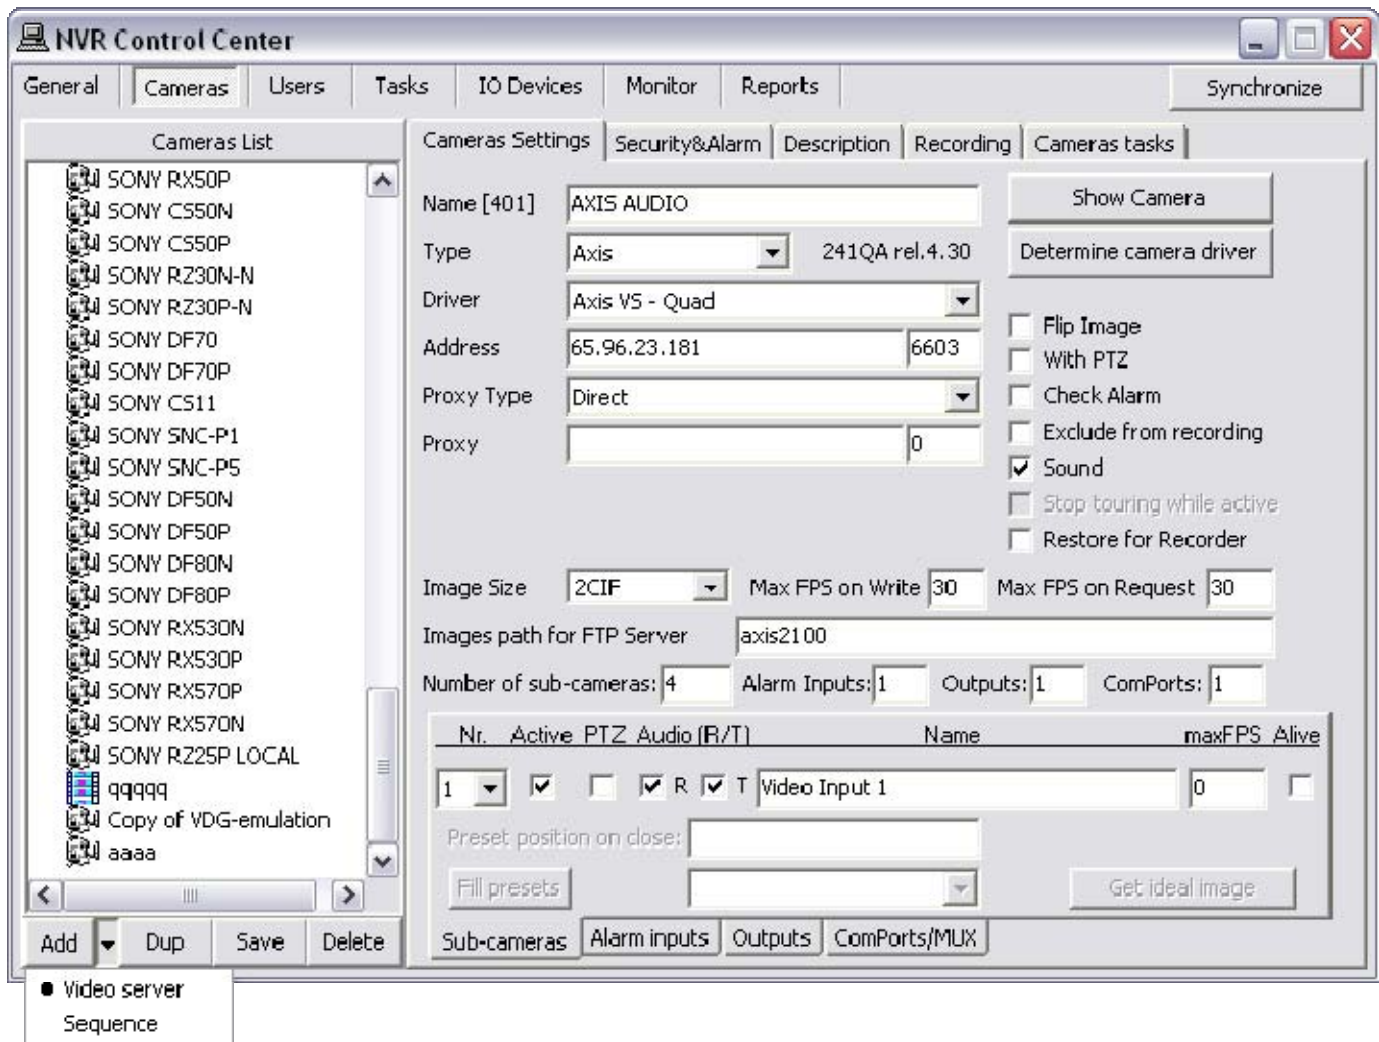

Fig 27. NVR Control Center — Cameras — Cameras Settings
1. In the NVR Control Center switch to the Cameras — Cameras Settings (Fig 27).